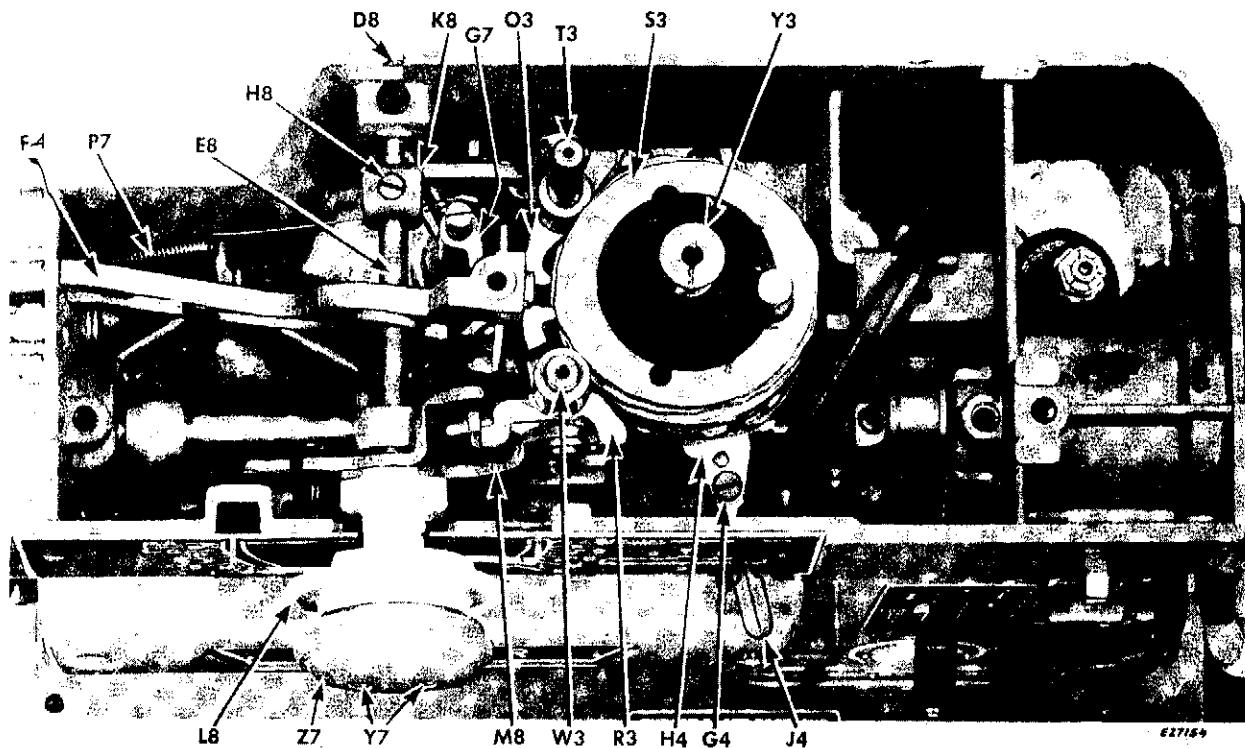
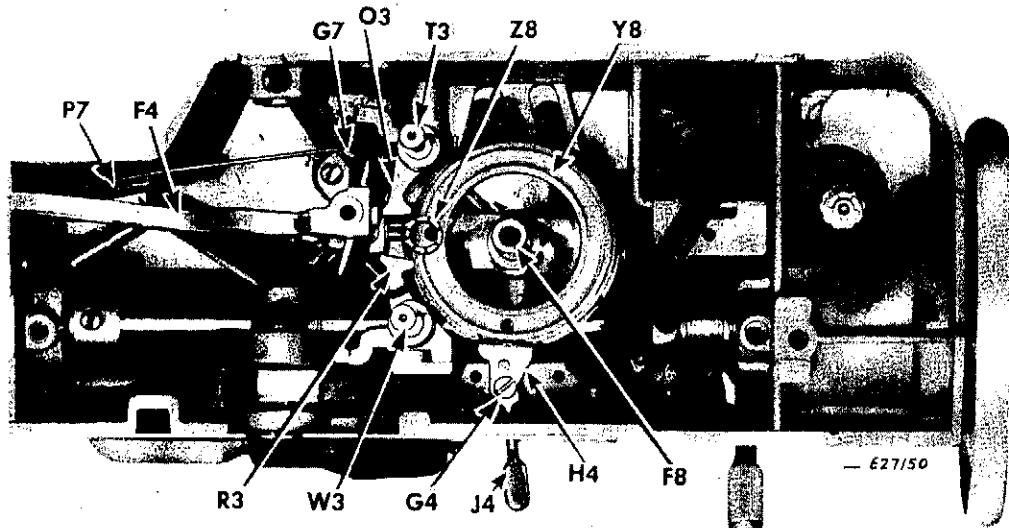

Fig. 321. Cam Stack and Selector Arm Shaft
Fig. 323. Showing Location of Ball Pivot on Driving Arm
3. Remove large screw stud **Y3**, Fig. 321 with spring and remove cam stack **S3**.
2. Remove two screws **Y7** and knob **Z7**, Fig. 321.
4. Remove screw **D8**, Fig. 321, at rear of selector arm shaft **E8**.
5. Remove screw **H8** and withdraw shaft **E8** from front of arm, releasing rear selector arm **K8**, and front selector arm and knob **L8**, Fig. 321.
7. Remove followers **O3** and **R3**, Fig. 321.
1. Replace followers **O3** and **R3**, as shown in Fig. 321.
2. Replace knob **L8** so that bracket on front selector arm **M8** slides into its slot in front follower **R3**, Fig. 321.
3. Replace selector arm shaft **E8** slipping it through front selector arm knob **L8** and rear selector arm **K8**, Fig. 321. Make certain that bracket on rear selector arm **K8** slides into its slot in follower **O3**.
4. Replace and securely tighten screw **H8**, Fig. 321 so that screw clamps down on counterbore on shaft.
6. Replace screw **D8**, Fig. 321 on rear of arm selector shaft.
7. Replace knob **Y7**, Fig. 321. Fasten knob to indicator **B8**, Fig. 322 with two screws **Z7**, Fig. 321.
4. Lift needle bar driving arm, **F4**, Fig. 323 from machine.
machine, so that ball pivot **Z8**, Fig. 323 rides in socket provided for it in pattern selector **Y8**, as shown in **Fig. 323**.
**CAUTION:** Make certain tension arm **G7**, Fig. 323 is in correct position in relation to needle bar driving arm, as shown in **Fig. 323**.
(See Fig. 323)
3. Remove spring **P7**, Fig. 323.
6. Loosen set screw **X8**, Fig. 322, page 158 and remove entire cam stack assembly **S3** with worm wheel eccentric shaft **F8**, Fig. 323 and screw stud **Y3**, Fig. 321, page 158.
2. Make certain that needle bar driving arm ball bearing pivot **Z8** is engaged with pattern selector, as shown in **Fig. 323**.
6. Replace spring **P7**, Fig. 323.